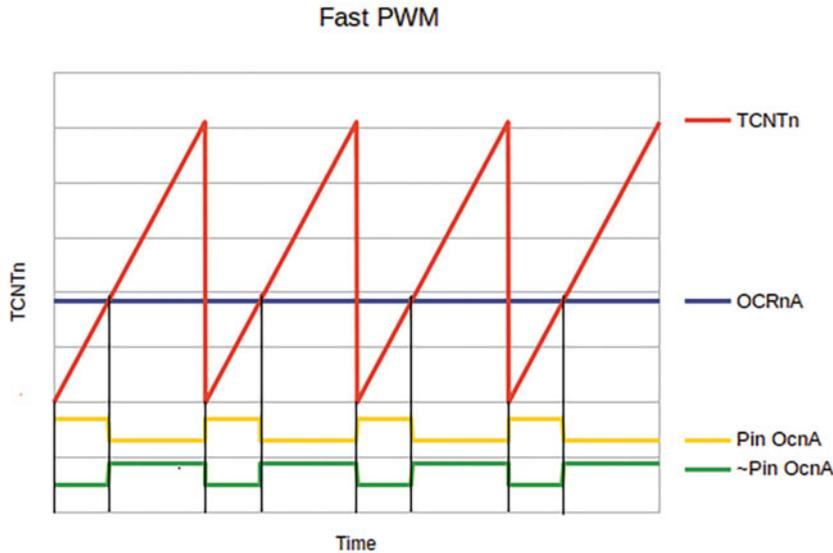

Figure 8-3 Eight-bit Fast PWM with TOP at 255
This PWM mode is called “single slope” as a graph of TCNTn's value would slope upward, then fall immediately back down to zero like a sawtooth. Figure 8-3 shows the slope of the count in TCNTn as it rises and resets to zero.
Figure 8-3 shows the details of Fast PWM with TOP fixed at 255, which is mode 3 for Timers 0 and 2 or mode 5 for Timer 1.
In Figure 8-3, the value in OCRnA is constant as per the Arduino initialization code. It can be changed in code or in an interrupt handler, to vary the duty cycle of the PWM waveform, but this is not used on the Arduino.
In the following descriptions, everything that applies to OCRnA and OCnA applies equally to OCRnB and OCnB, but the latter are not shown in Figure 8-3 to avoid clutter:
- The jagged line in Figure 8-3 is the value in TCNTn as it rises from zero (BOTTOM) to TOP, which, in the case of an Arduino board, is set to 255, although this can be changed as per the data sheet. After 255, the value drops to zero on the next timer clock pulse.